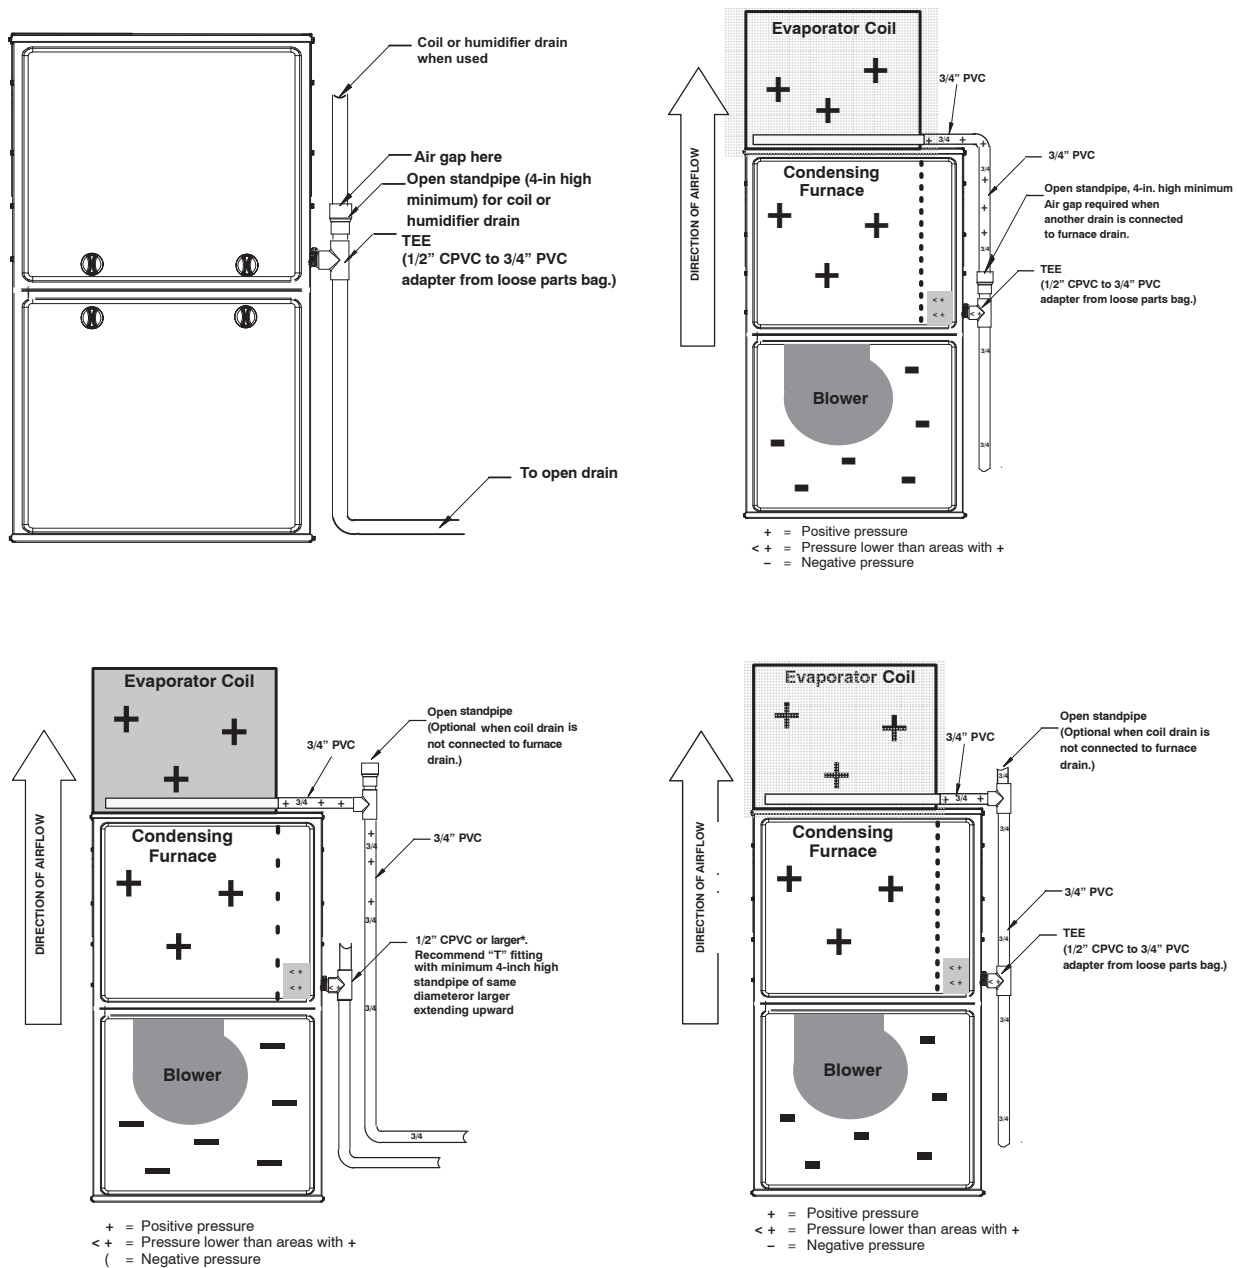

Fig. 12 - Example of Field Drain Attachment
- All condensate piping is at least 3/4-in. PVC and there is a relief tee at the top of condensate drain piping as shown in Fig. 12.